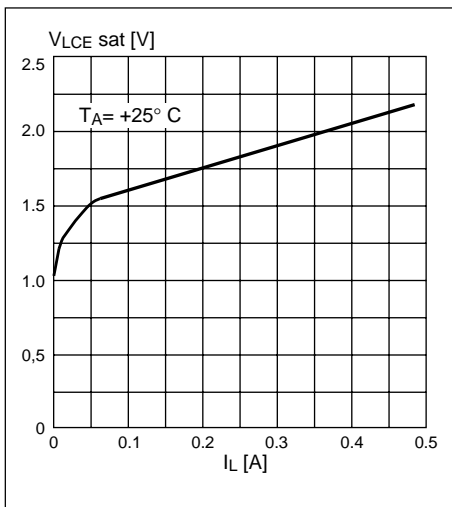

Figure 4. Typical phase output saturation voltage vs. output current.
- The ambient temperature sets the maximum allowable power dissipation in the IC, which relates to the motor currents and the duty cycle of the bilevel function. For PBD 3517/1, without any measures taken to reduce the chip temperature via heatsinks, the power dissipation vs. temperature follows the curve in figure 4.
4. Figures 4, 5 and 6 show typical saturation voltages vs. output current levels for different output transistors.